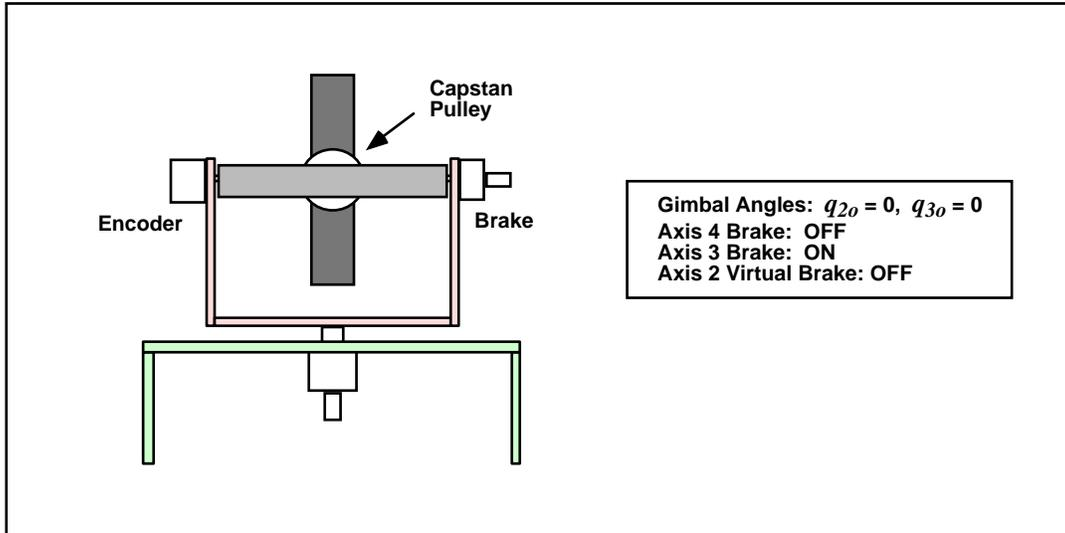

Figure 3-1. Configuration For All Tests In This Section
1. Setup the mechanism as shown in Figure 3-1.